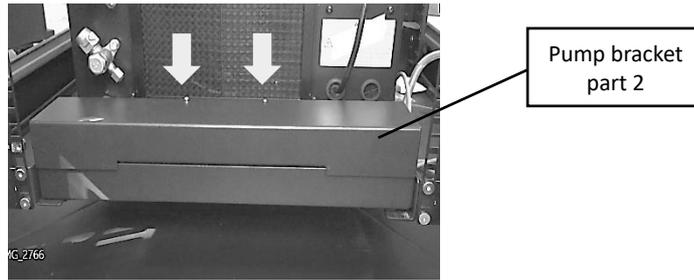

Figure 3-19 Installation of The Pump Bracket Part 2
7. Tighten the two screws to install pump bracket part 2 to pump bracket part 1, as shown in **Figure 3-19**.